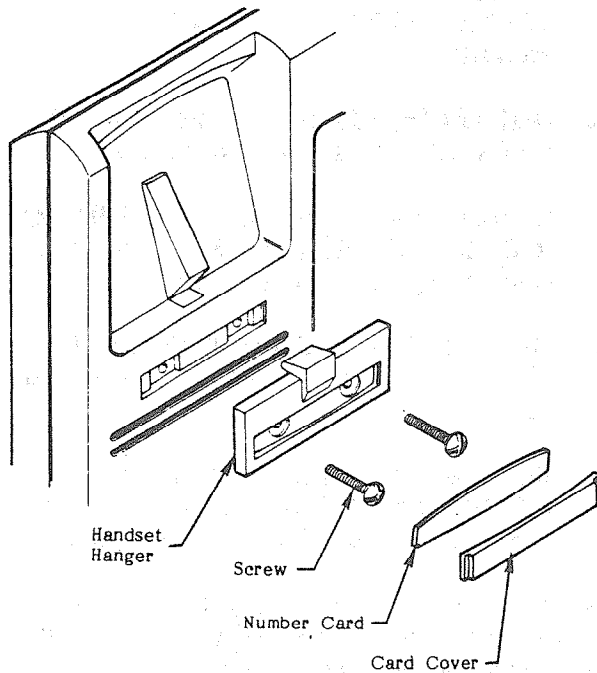

FIGURE 21
08.21 Refer to Figure 21, the optional handset hanger kit (available from Toshiba Telecom) must be used whenever the EKT is wall-mounted.